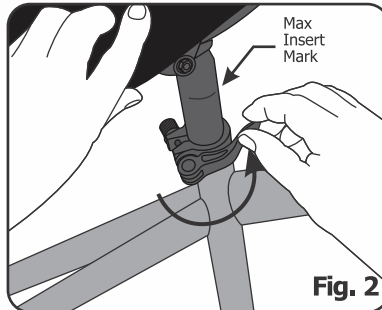

Fig. 2
Attention! Always insert seat post into bicycle frame above the **minimum mark** and below the **maximum mark**, see **Fig. 2**. Incorrect seat post insertion outside of maximum - minimum marks will cause bicycle damage or injury.
2. Hold the saddle aligned in the forward position at the desired seat height. Close quick release counter clockwise see (Fig. 2).
3. As shown in **Fig. 2** assemble the linear pull brake by (1) squeezing by hand the two lever arms together. Using other hand locate the (5) guide pipe into retaining plate slot of the left lever arm. Once the guide pipe is in place release the two lever arms.